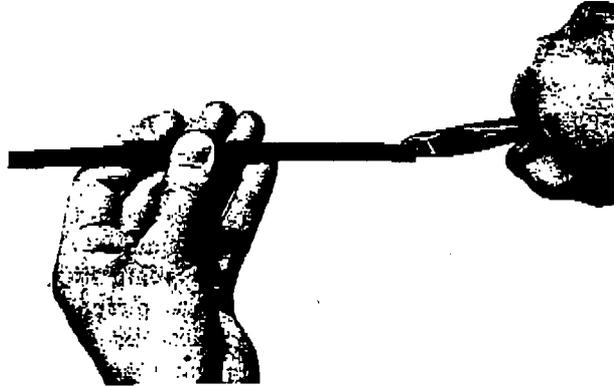

Fig. 5—Cutting Insulation Web
- (1) Hold the drop wire with the ridge tracer turned to one side. Slide wire halfway into jaws of diagonal pliers and cut insulation web. Repeat as required (Fig. 5).